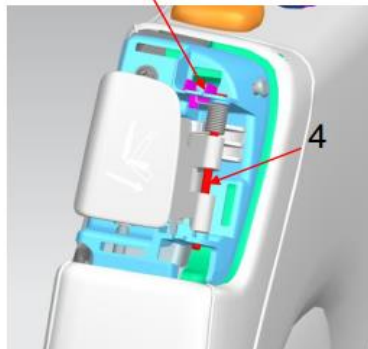

Fig 4.
4. Confirm the pin is in place (Fig 4) and there is no gap between the pin head and the housing. If the pin is not installed as shown in Fig 4, replace the Easy Entry handle assembly as per service procedure.